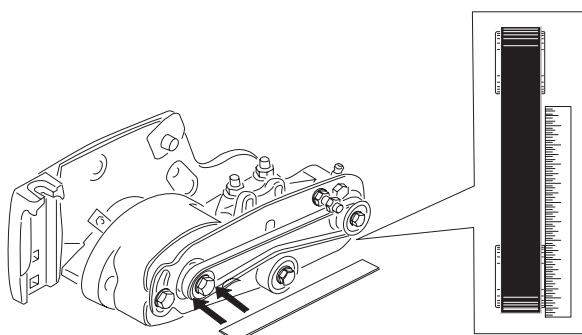

Figure 15
- Lay a straight edge along the outer face of the **drive** pulley (Fig. 15). **Do not** lay the straight edge across both the drive and driven pulleys.